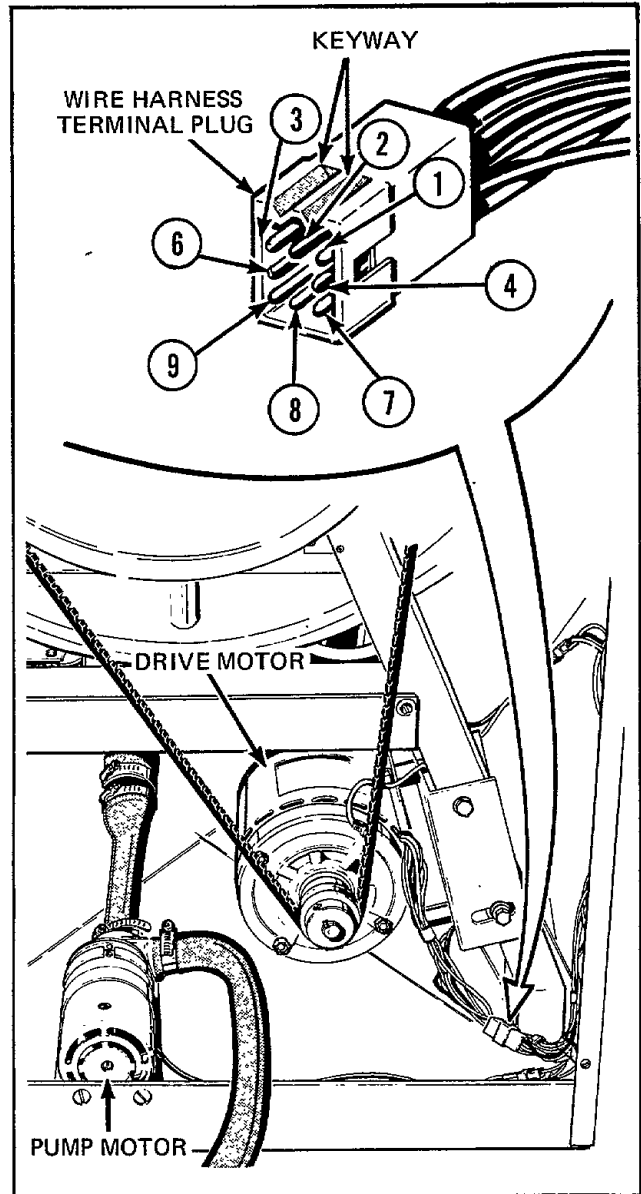

Figure 66
**65. PUMP MOTOR (Refer to Figure 66)**
**66. DRIVE MOTOR (Refer to Figure 66)**